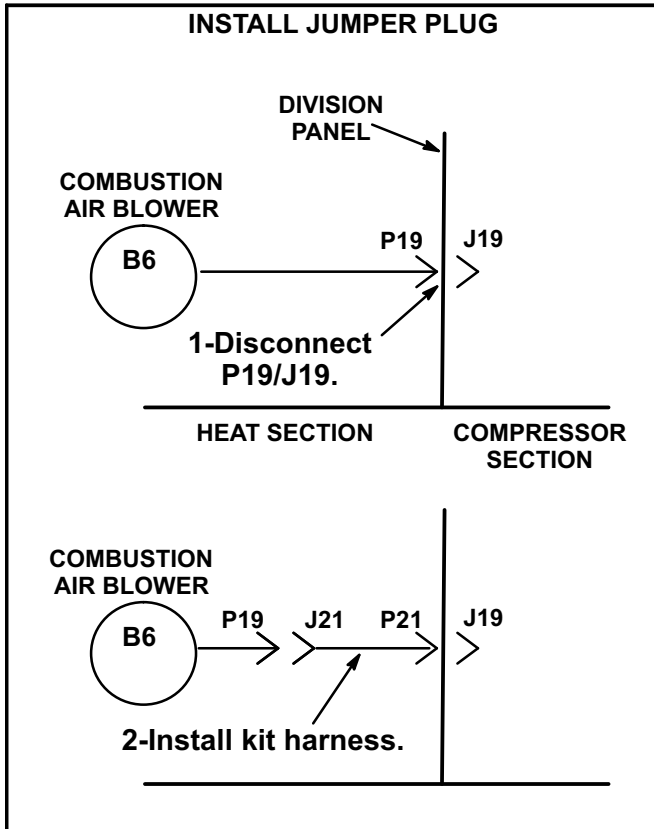

FIGURE 6
- 5- Install kit harness between disconnected plugs. See figure 6.